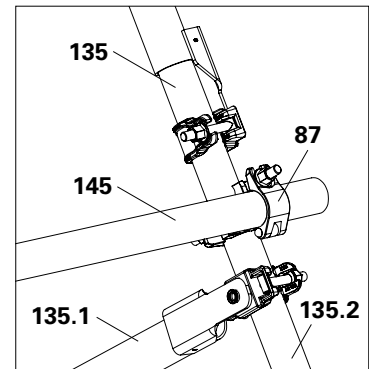

Fig. A15.07a
2. For 3 m long bays, horizontally reinforce each multi brace with an outer tube. For bay lengths ≤ 2.5 m, horizontally reinforce each multi brace with a scaffolding tube (**145**) and standard couplers (**87**). (Fig. A15.07a)